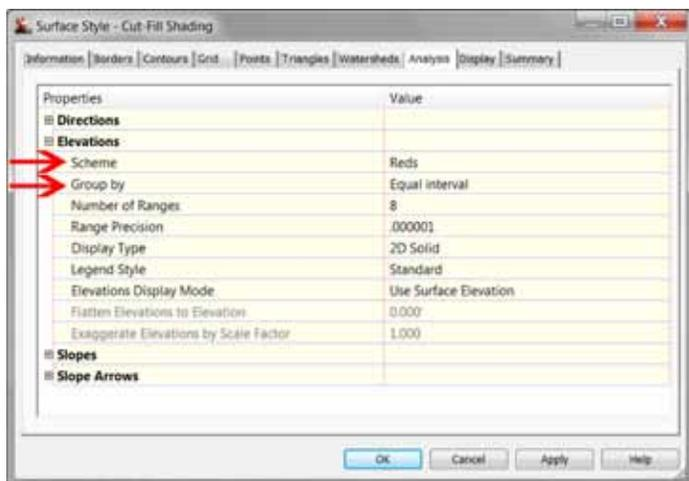

Figure 4: The Surface Style dialog box is used to customize the display of a Civil 3D surface.
Step 1: On the Settings tab of the Toolspace, open the Surface group, right-click on the Surface Styles heading, and select New. **Step 2:** In the Surface Style dialog box, select the Information tab and name the style Cut-Fill Shading. **Step 3:** Select the Analysis tab and open the Elevations group to display the settings (see Figure 4).